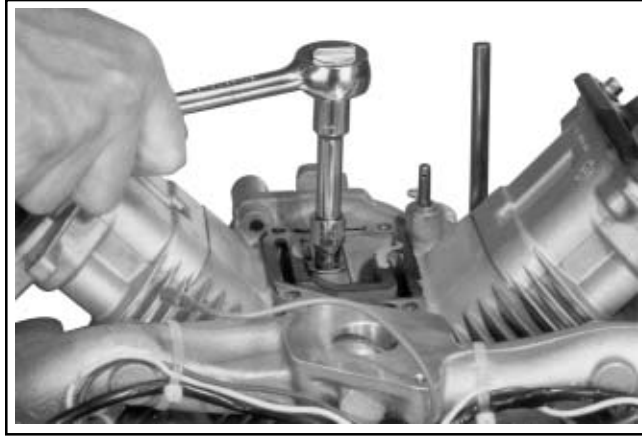

Figure 11-56. Installing Breather Reed Assembly.
3. Install the hex. flange screw, breather reed retainer and breather reed onto the crankcase as shown in Figure 11-56.